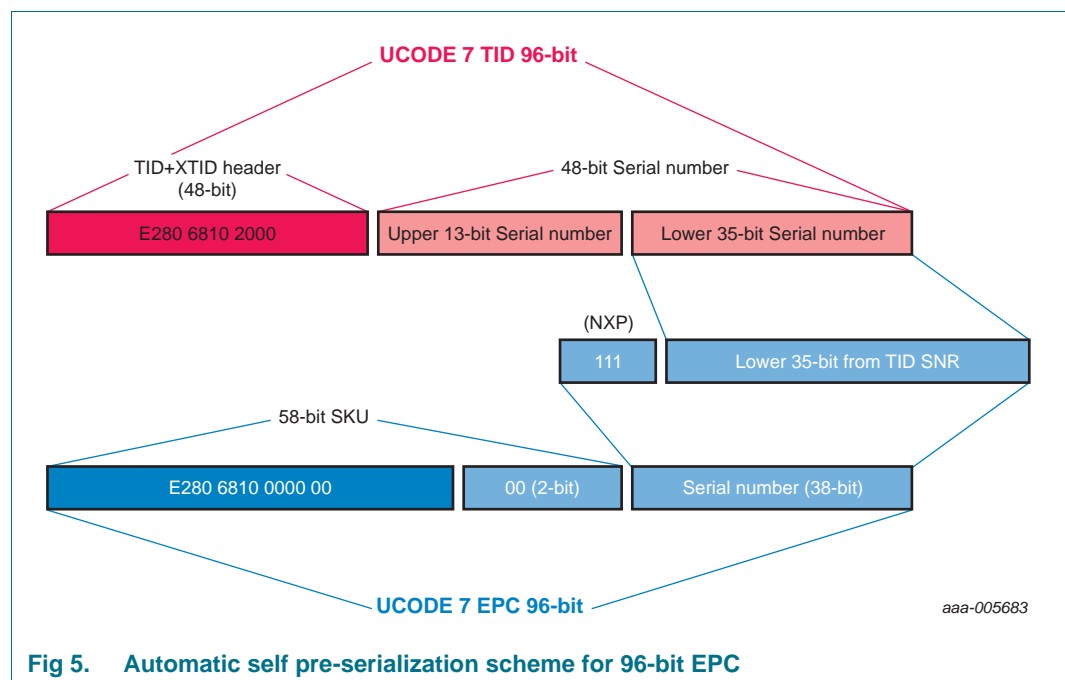

Fig 5. Automatic self pre-serialization scheme for 96-bit EPC
In case the EPC length is set to be 96-bit, the EPC is by default self pre-serialized following a 96-bit EPC serialization scheme according to the Multi Vendor Chip-based serialization guideline (see Ref. 23), meaning the lower 38-bit will always contain 3 bits for the manufacturer code (111 for NXP) and 35 bit serial number taken from the lower 35 bits of the TID serial number (see Figure 5).
- Setting the 38-bit Serial number of the EPC to “0” (see Figure 5), or